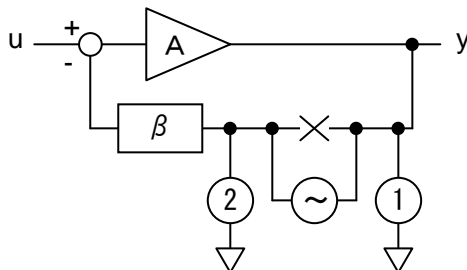

Figure 4-1 Connections for loop gain measurement
This instrument measures and displays loop characteristics rather than $A\beta$ characteristics. In the block diagram presented in "Figure 4-1 Connections for loop gain measurement", the polarity reversing part of the feedback on the input side of the amplifier element (A) is included in the measurement. That is to say, $-A\beta$ is measured. In general automatic control theory explanations, loop characteristics are usually treated as $A\beta$, so the phase margin is defined as the difference from 180° . For measurements with this instrument, however, the phase margin is defined as the difference from 0° . Also, when the Nyquist plot is displayed, the position that indicates the stability limit is $(+1+j\ 0)$ rather than $(-1+j\ 0)$.